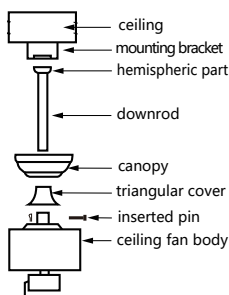

Figure 3
- 1.The downrod needs to pass through the canopy and the triangular cover.Insert the downrod into the hemispheric part and align the holes,then insert the inserted pin.Plug the R shaped iron inserted pin into the hole of the inserted pin,fasten the screws on the side of the hemispheric part(See Figure 3).